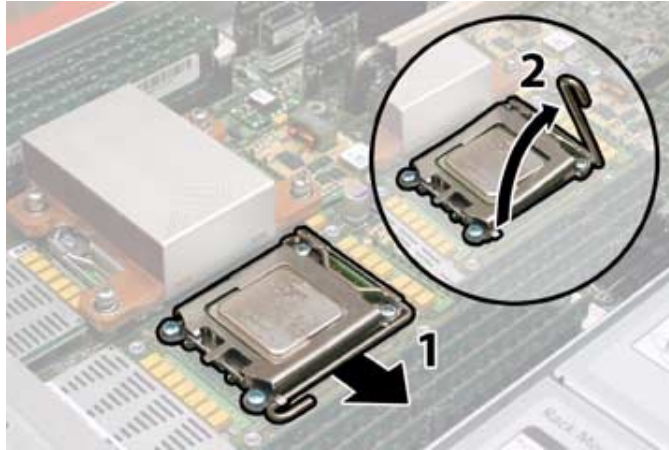

FIGURE 3-56 Releasing the CPU Socket Lever
- c. Pull the CPU socket lever slightly away from the socket. See FIGURE 3-56.
The release lever must lock down the retainer plate as you close the lever. See FIGURE 3-56 for a view of how the lever locks down the edge of the plate.